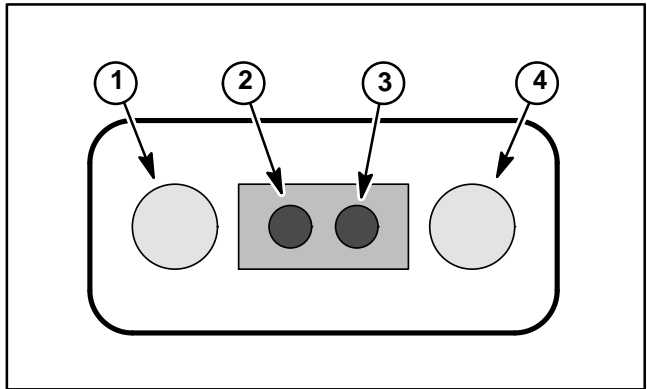

Figure 19
The sonic sensor includes a LED window that identifies sensor status during Ultra Sonic Boom system operation (Fig. 19). To view the LED window, carefully remove cover from sonic sensor. The LED window includes four (4) LED's.